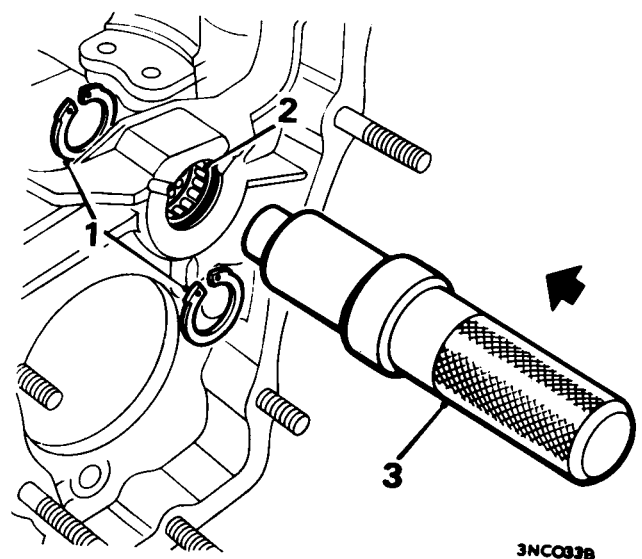

Fig. F.21
42. Use tool 18G 1126 (without its outer sleeve) and drift out the idler gear bearing, Fig. F.21.
52. Refit the inner circlip into the gearbox casing, drift in the new idler gear bearing using tool 18G 1126, and refit the outer retaining circlip, Fig. F.21.